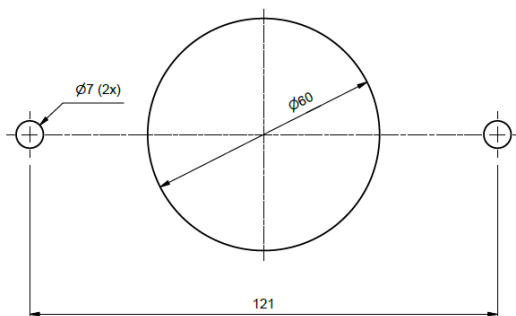

Figure 1 Mounting holes in supply tank
1. Make two mounting holes and the hole for the sinkers following Figure 1